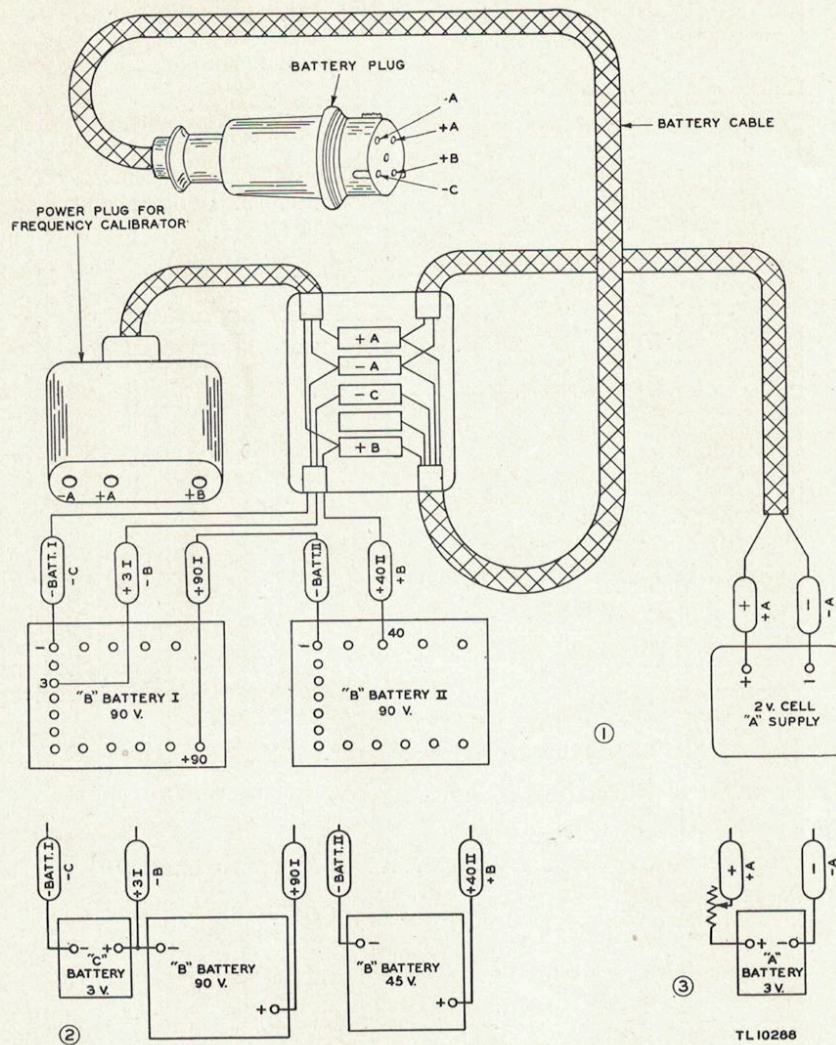
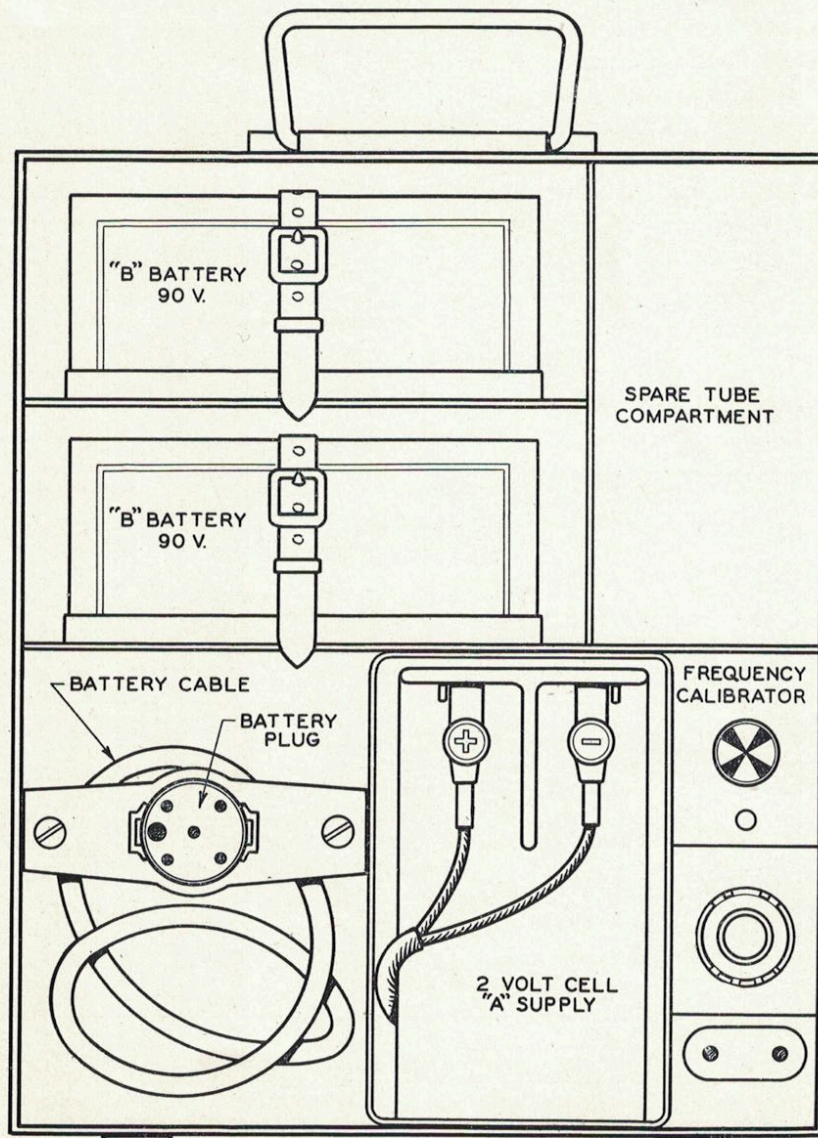

Figure 2. Power supply connections for German radio set Torn. Fu. d2.
Figure 3. Placement of equipment in accessories case of German radio set
a. General. If the proper German batteries are available, they should be connected in the accessories case as shown in figure 2 ①. The storage cell, German type 2B38, will fit into a compartment provided. Each of the two **Anode Batteries** (B batteries) also fits into a compartment of the case. Figure 3 shows compartments and placement of equipment in the accessories case.
b. Filament Supply Substitutes. When the German storage cell is unavailable, a 2-volt storage cell of any manufacture may be used. Dry cells of 3 volts may be used in place of the storage cell. However, a dropping resistor must be connected (fig. 2 ③), and provisions made for adjusting the resistance in this circuit when changing from the **Empf.** (receive) position to either of the two transmit positions marked **Tg.** (cw) or **Tn.** (voice).
c. **Plate and Grid Supply Substitutes.** When German **Anode Batteries** (B batteries) are not available, B batteries of American manufacture may be substituted as shown in figure 2 ②.
a. Battery. (1) Connect the batteries as shown in figure 2 ①, or 2② and 2③ and described in paragraph 3.
6. CALIBRATION. A crystal controlled frequency calibrator is located in the lower right side of the accessories case (fig. 3). A power cable and plug is provided for connection to the batteries. The calibrator is placed in operation by pressing the push-button switch marked **Drücken** (press). Plate current flow is indicated by the appearance of white sectors in the instrument directly above the switch.
a. Calibration of the Receiver. (1) Plug the headset into either of the jacks marked **Fernhörer** (headphones) on the front panel.